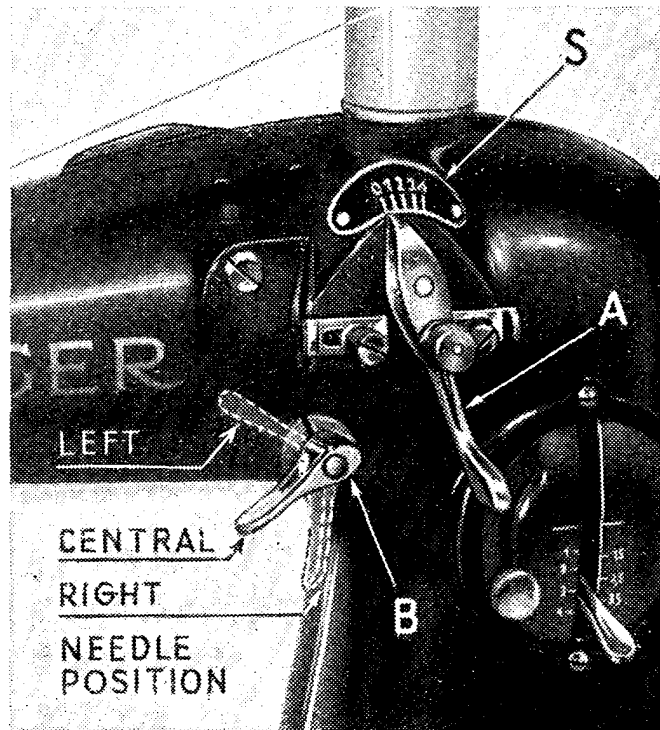
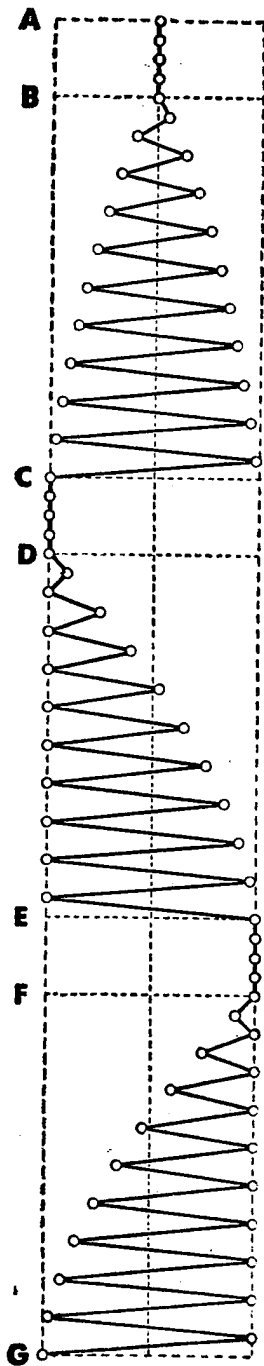

Fig. 26
Fig. 27
The setting of the various stitches is done, as described in the following paragraphs, by means of both levers (A & B, Fig. 26). With the bight lever (A) the machine is set for either straight stitching or zig zag stitching, while the position lever (B) serves as the setting for central, left, or right needle position.
Ordinary Sewing (Fig. 26)
If the bight lever (A) is not set at O, but at any one of the other positions as indicated on the scale in Fig. 26, then the machine will sew a zig zag stitch. Each mark on the scale means one mm. width of bight, that is, zig zag stitches up to 4 mm. in width can be accomplished. **ZIG ZAG SEWING** may only be done when the throat plate with the elongated needle hole and the matching presser foot are used, otherwise the needle will be broken.
For normal sewing work, the needle position lever (B, Fig. 26) must be at its central position. The machine will produce zig zag stitches, which are arranged centrally. The row of stitches from A to C, in Fig. 27, is shown with central needle position (needle position lever in its middle position). The row A to B remains located in the middle of the straight sewing, the row B to C is made up of various zig zag stitching up to the widest bight of 4 mm.
If the needle position lever (B), shown in Fig. 26, is moved upwards to the left, then the row of straight stitching will be located to the left of the widest bight of 4 mm. (see row C to D), while the needle will vibrate to the right and the zig zag stitch will lie to the right of the straight stitch (row D to E, Fig. 27).
If the needle position lever B, Fig. 26 is down towards the right, then the straight stitching will lie on the right edge of the widest bight of 4 mm. (see row E to F, Fig. 27). The needle will then vibrate from the right to the left and will make zig zag stitches, as shown in row F to G (Fig. 27).
When using hemmer (No. 6, Fig. 3) or feller (No. 7, Fig. 3) the machine must be set for straight stitching at central needle position as shown in Fig. 26.